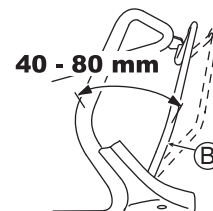

Fig. 27
Adjust so that the machine runs (the drive clutch gets engaged) when the distance between the drive clutch lever (B) and the handle is 40 - 80 mm as shown in Fig. 27.